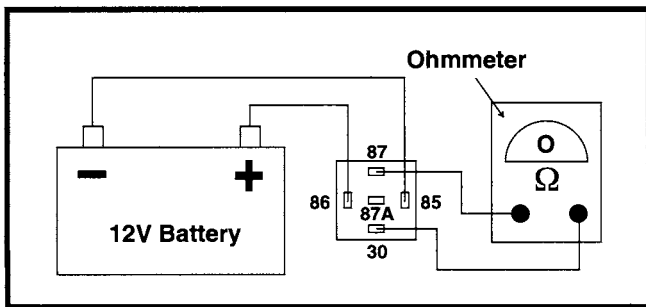

Figure 62. Starter Relay Test
1. See Figure 62. Unplug the relay connector and substitute a new relay or perform the following test.